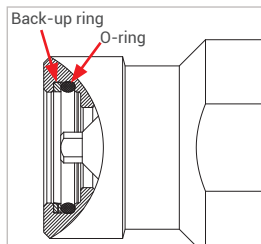

Figure 6
- ▶ Before inserting the receptacle insert (Pos. 7), check both sealing elements (o-ring and back-up ring, *Figure 6*) for correct installation direction, proper position and any damages.